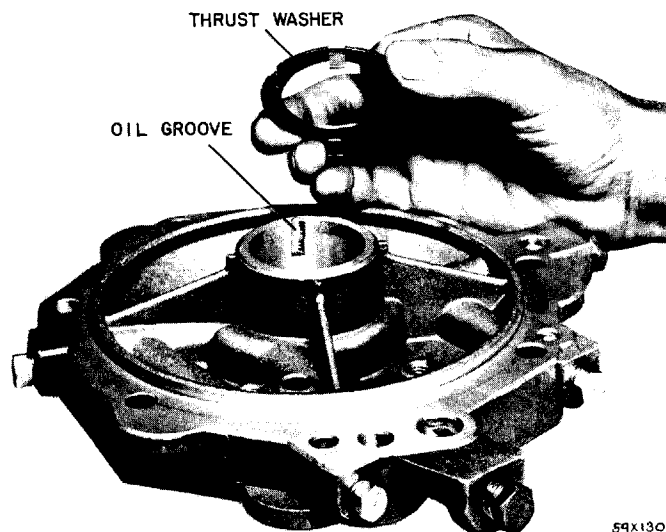

Fig. 85—Installing Thrust Washer on Output Shaft Support
(1) Position output shaft support thrust washer with the four tabs spaced between the webs on the front side of the output shaft support. Rotate the washer to find the location that will provide a minimum amount of rotation, Fig. 85. Lubriplate may be used to hold washer in place.
(2) With guide studs, Tool C-3283, installed in rear of transmission case, place output shaft support gasket over guide studs and into position on rear of case.